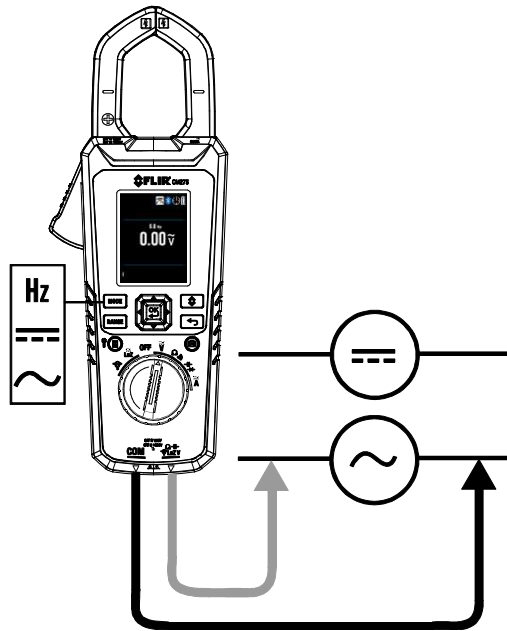

Fig. 9-4 Voltage and Frequency Measurements
2. Insert the black probe lead into the negative COM terminal and the red probe lead into the positive terminal. Refer to Fig. 9-4 below.